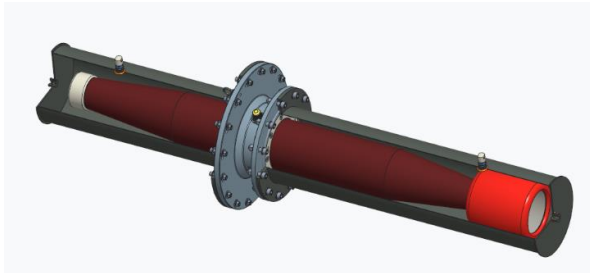

Fig. 4
- Concerning the storage of the bushing, the location (outdoor, rain protected or indoor) and the duration of storage (short, medium, or long term) must be considered. If necessary, a storage canister can be ordered to the manufacturer (fig. 4).